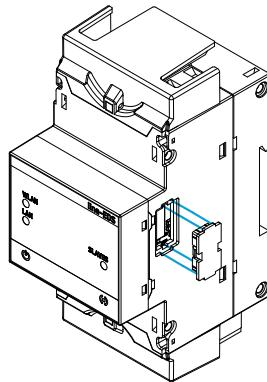

Figure 8: Installation step 1.
- 1.- Using a flat head screwdriver, remove the expansion connector's protective covers located on the side of the devices, (**Figure 8**).